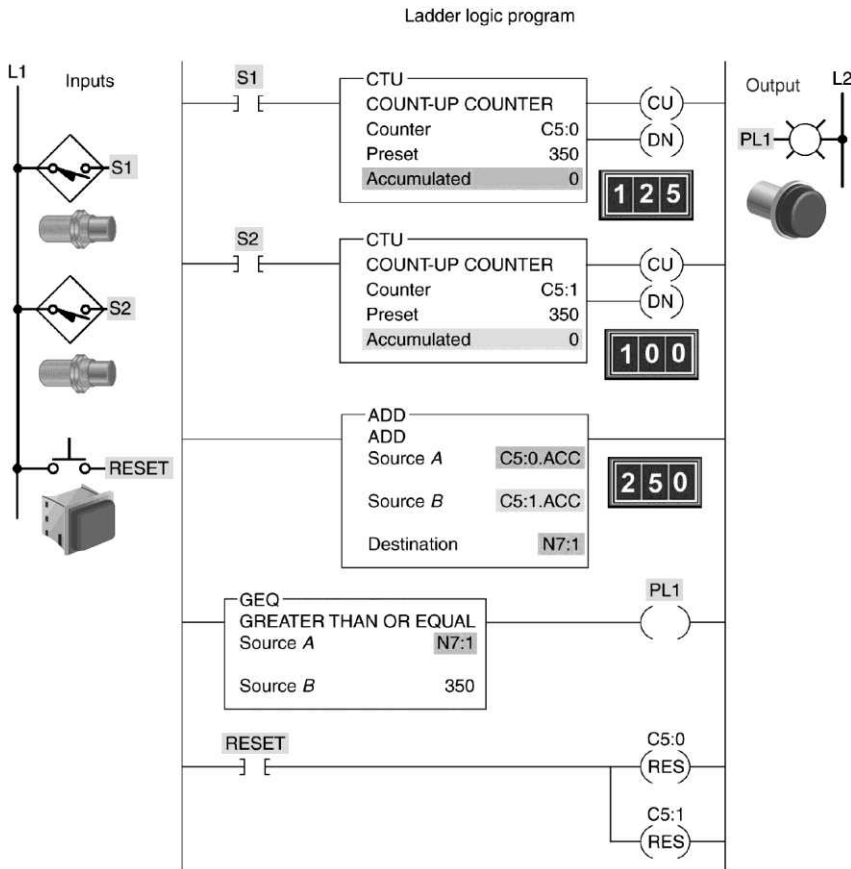

Figure 11-28 Counter program for assignment 1.
- 1) The counter program of Figure 11-28 is described in the text.